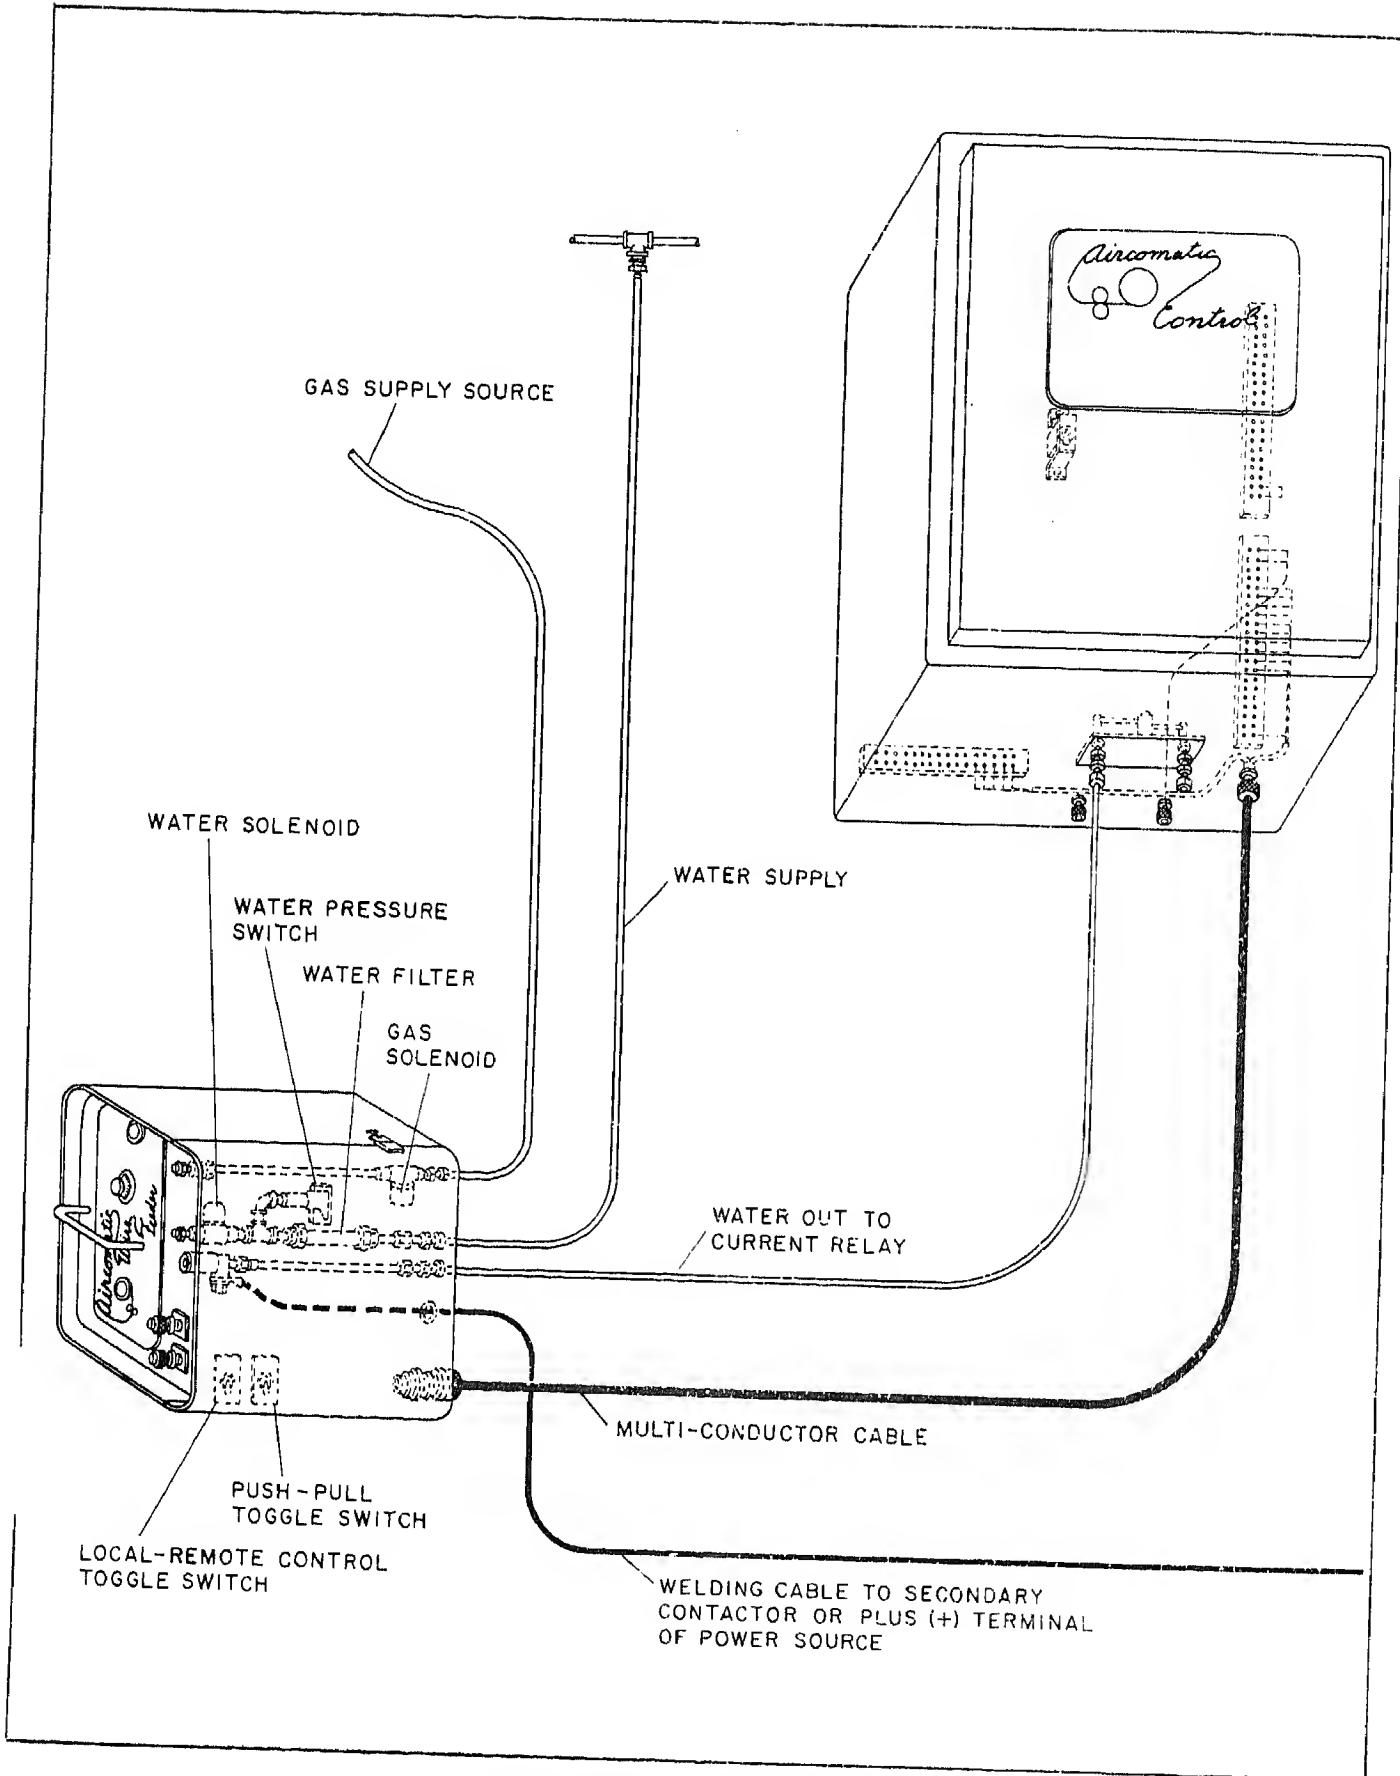

Figure 7. Interconnection Diagram
1. The Feeder is interconnected (Fig. 7) with a Control, welding power source, gun, and (if power source does not contain a primary contactor) a secondary contactor. This requires two water hoses (water-cooled guns only), a gas hose, a multi-conductor cable, and a contactor-to-feeder cable (or power source to feeder). One of the water hoses (water-out-to-relay) and the multi-conductor cable are supplied in a hose and cable kit available in three sizes as shown in Table 2. The other water hose is a customer-furnished,